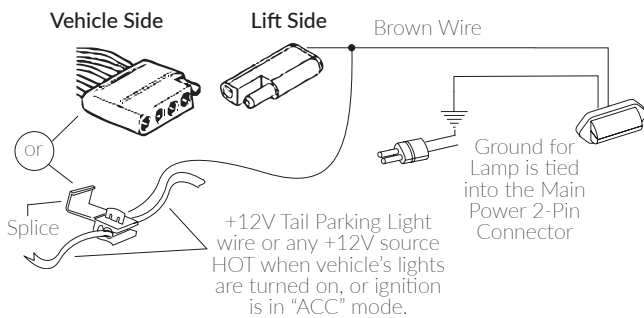

Figure 4-8
**NOTE:** The lift includes a standard two-contact trailer connector. Use this connector for the license plate lamp. If your vehicle is not equipped with the proper connector, use the brown wire to make a wire splice and get the same result. **See Figure 4-8.**